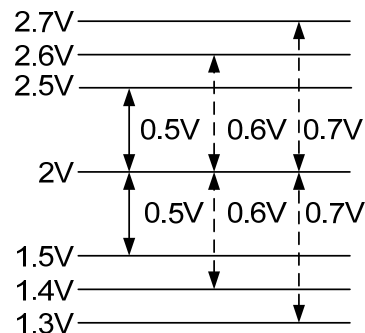
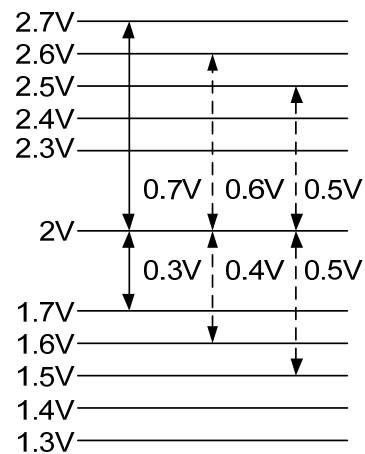

Figure 28. Adjust W2 or W4
Figure 29. Adjust W3 or W5
3. Set output voltage limit. Adjust the potentiometer W4 to set the voltage limit. TP VLIM is the test point for W4. After the VLM is tuned properly, adjust W5 to achieve different voltage limit for heating and cooling. TP VLIMO is the test point for W5. As is shown in Figure 28 and Figure 29.
4. Set output current limit. Adjust the potentiometer W2 to set the current limit. TP ILIM is the test point for W2. After the current limit is tuned properly, adjust W3 to achieve different ILM for heating and cooling. TP ILIMO is the test point for W3. As is shown in Figure 28 and Figure 29.